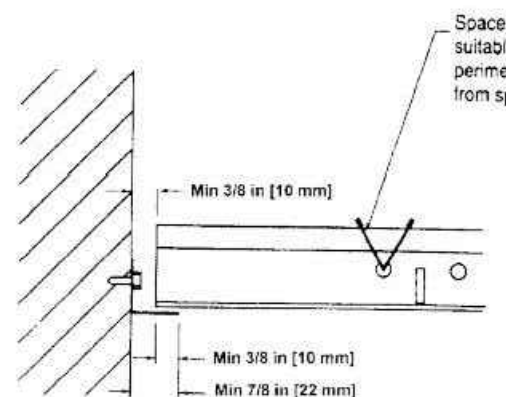
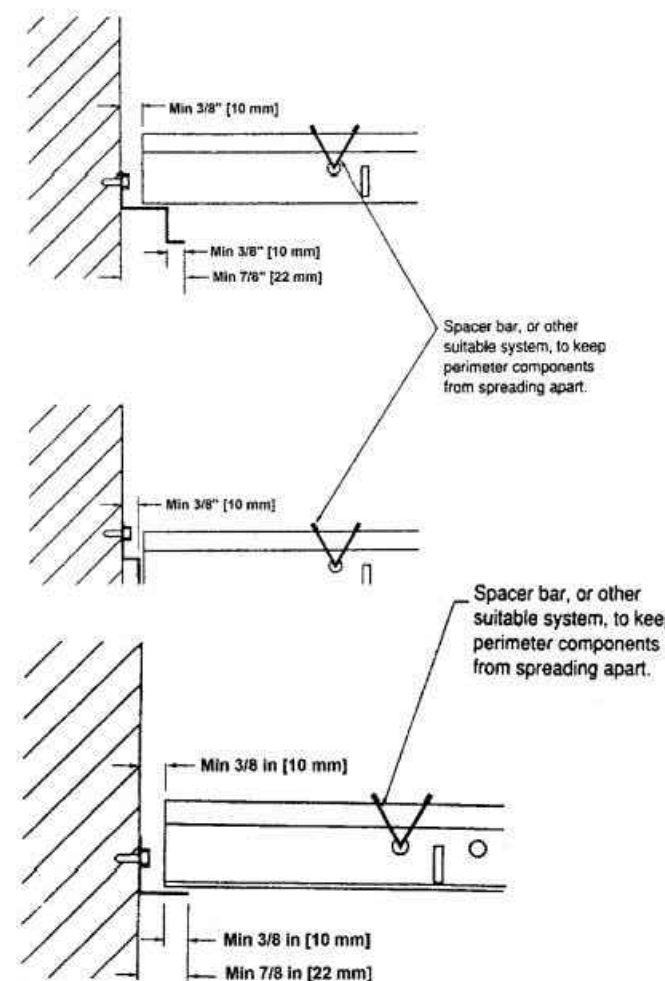

FIG. 1 Category C Treatment of Cross Runners, Main Runners, and Wall Closures at Terminal Ends
FIG. 2 Category C Treatment of Cross Runners and Main Runners at Terminal Ends When Using Reveal (Shadow) Edge Wall Closures
4.2.4 The terminal ends of suspension members shall have a minimum of 3/8-in. [9-mm] clearance from the wall as shown in Fig. 1. Reveal (shadow) edge wall closures with these clearances are shown in Fig. 2.